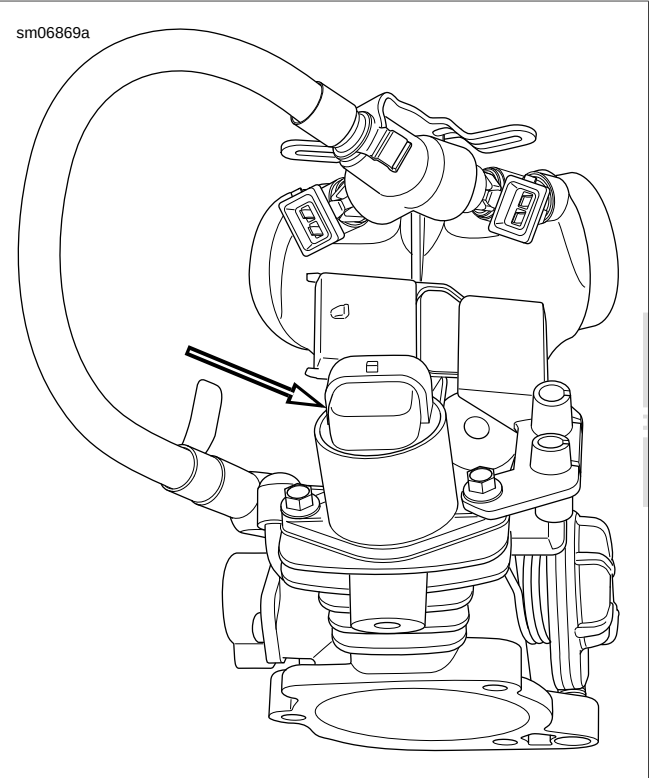

Figure 4-49. IAC: XL Models
**XL Models:** See Figure 4-49.